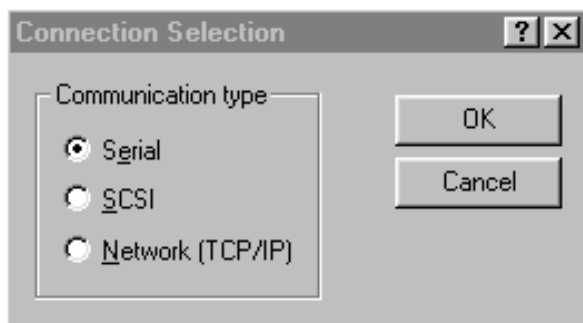

Figure 1–4: Connection Selection dialog box
The Connection Selection window opens, as shown in Figure 1–4.
2. When the Connection Selection window opens, select Serial and then click *OK*. The Connect Serial window opens, as shown in Figure 1–5.